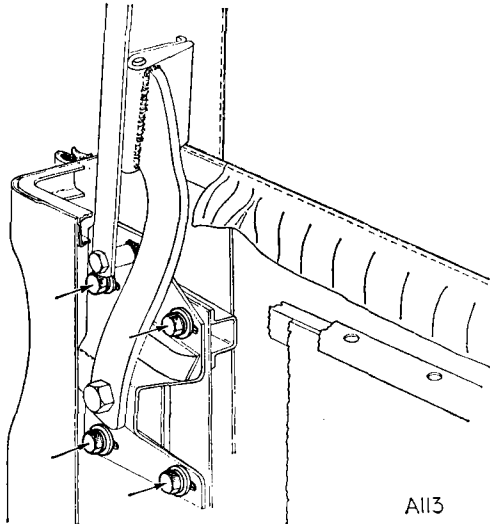

Fig. 47. Soft-top pivot mounting
- 1 Remove twelve screws (95), fasteners (96), washers (97) and nuts (98).
- 2 Detach the finisher strip (91), release the hood material from the body and drill out twelve rivets (3) retaining the plates (4) and the webbing (5) to the hood sticks and rear deck flange.
- 3 Release the head catch assemblies (7) on the screen rail and two snap-on clips securing the hood to the body side flanges.
4. Remove the trim quarter panels to gain access to the pivot mounting brackets (56) and (57). Release the bracket by removing the four securing bolts arrowed (Fig. 47). Lift the hood assembly from the body.